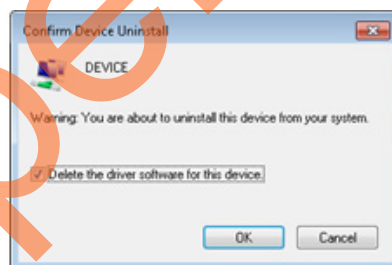

Figure 13 • Confirm Device Uninstall
- b. Select the **Delete the driver software for this device** check box as shown in Figure 13.